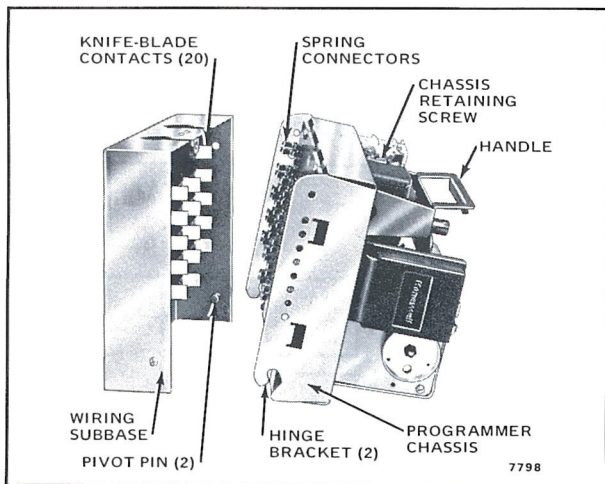

Fig. 5—Mounting the programmer on the subbase.
1. The subbase can be mounted in any position except horizontally with the knife-blade contacts pointing down. The standard vertical position (shown in Fig. 5) is recommended. Any other position decreases the maximum ambient temperature rating. (See Ambient Operating Temperature Ratings in the SPECIFICATIONS section.)
## INSTALLING THE PROGRAMMER (FIG. 5)